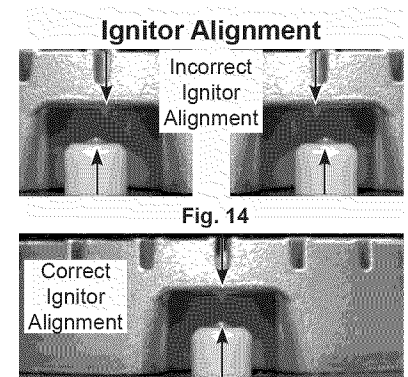

Fig. 14
- Replace burner heads at all locations and tighten each position with original screws using #1 square tip driver. Make sure that the center of the ignitor aligns with the center nib in the burner head (Figs. 14). Heads **MUST** have a Burner Cap installed to insure proper ignition and gas flame size.